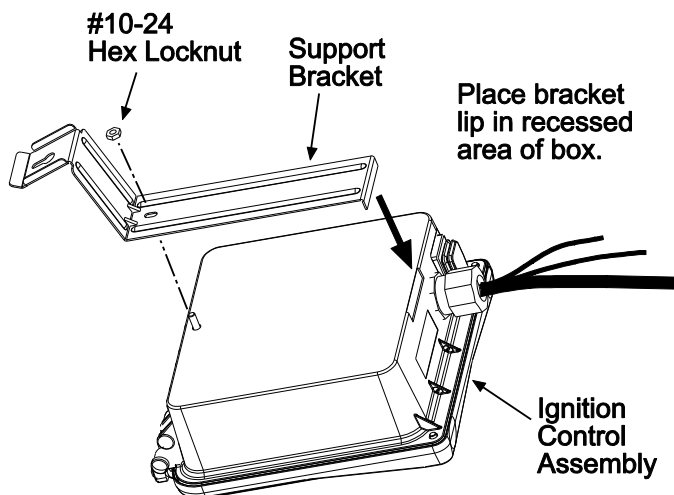
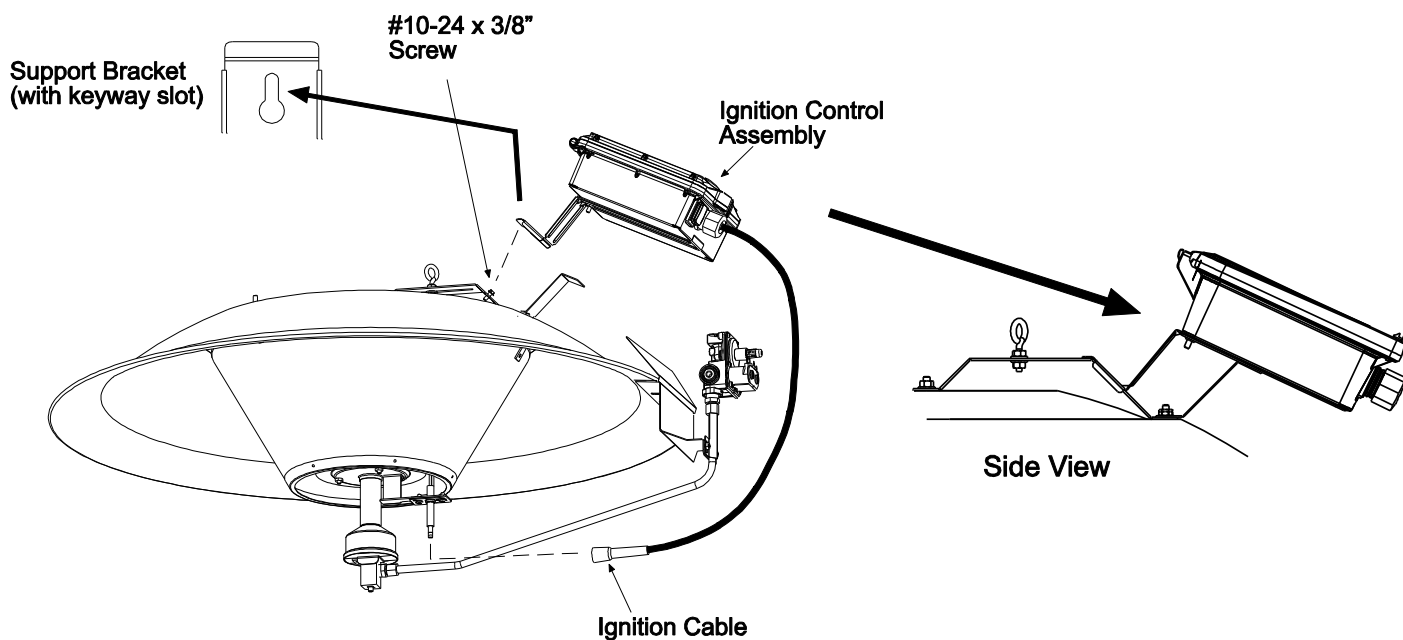

FIGURE 6
FIGURE 7
12. Flip the brooder assembly back to its original position as shown in Figure 7. Attach the Box Support Bracket to the Ignition Control Assembly using one (1) #10-24 hex locknut from the Fastener Kit. See Figure 6.
13. Place the Ignition Control Assembly in position over the Canopy and in line with the hole of the Low Profile Hanging Bracket. Attach this using one (1) #10-24 screw pre-installed on the hanger bracket. See Figure 7. Slide loose end of the ignition cable on to the electrode and secure cable portion to the gas control arm using the wire ties included in the Fastener Kit.